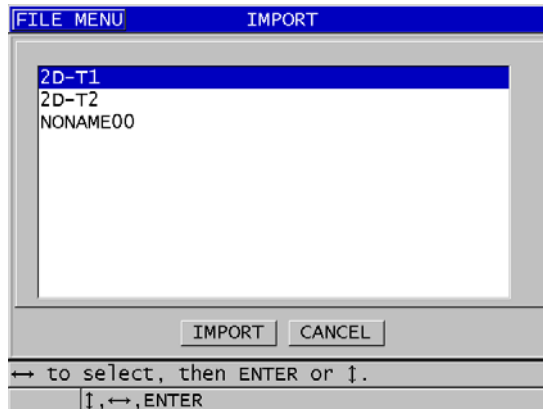

Figure 14-6 Example of the IMPORT screen
6. In the **IMPORT** screen (see Figure 14-6 on page 253):